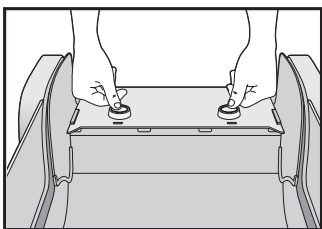

Fig. 10
- Depress the two pushtabs in the Waste Receptacle Compartment Cover (Fig. 10). (Detach the Disposable Waste Receptacle Lid from the Waste Receptacle Compartment Cover.)